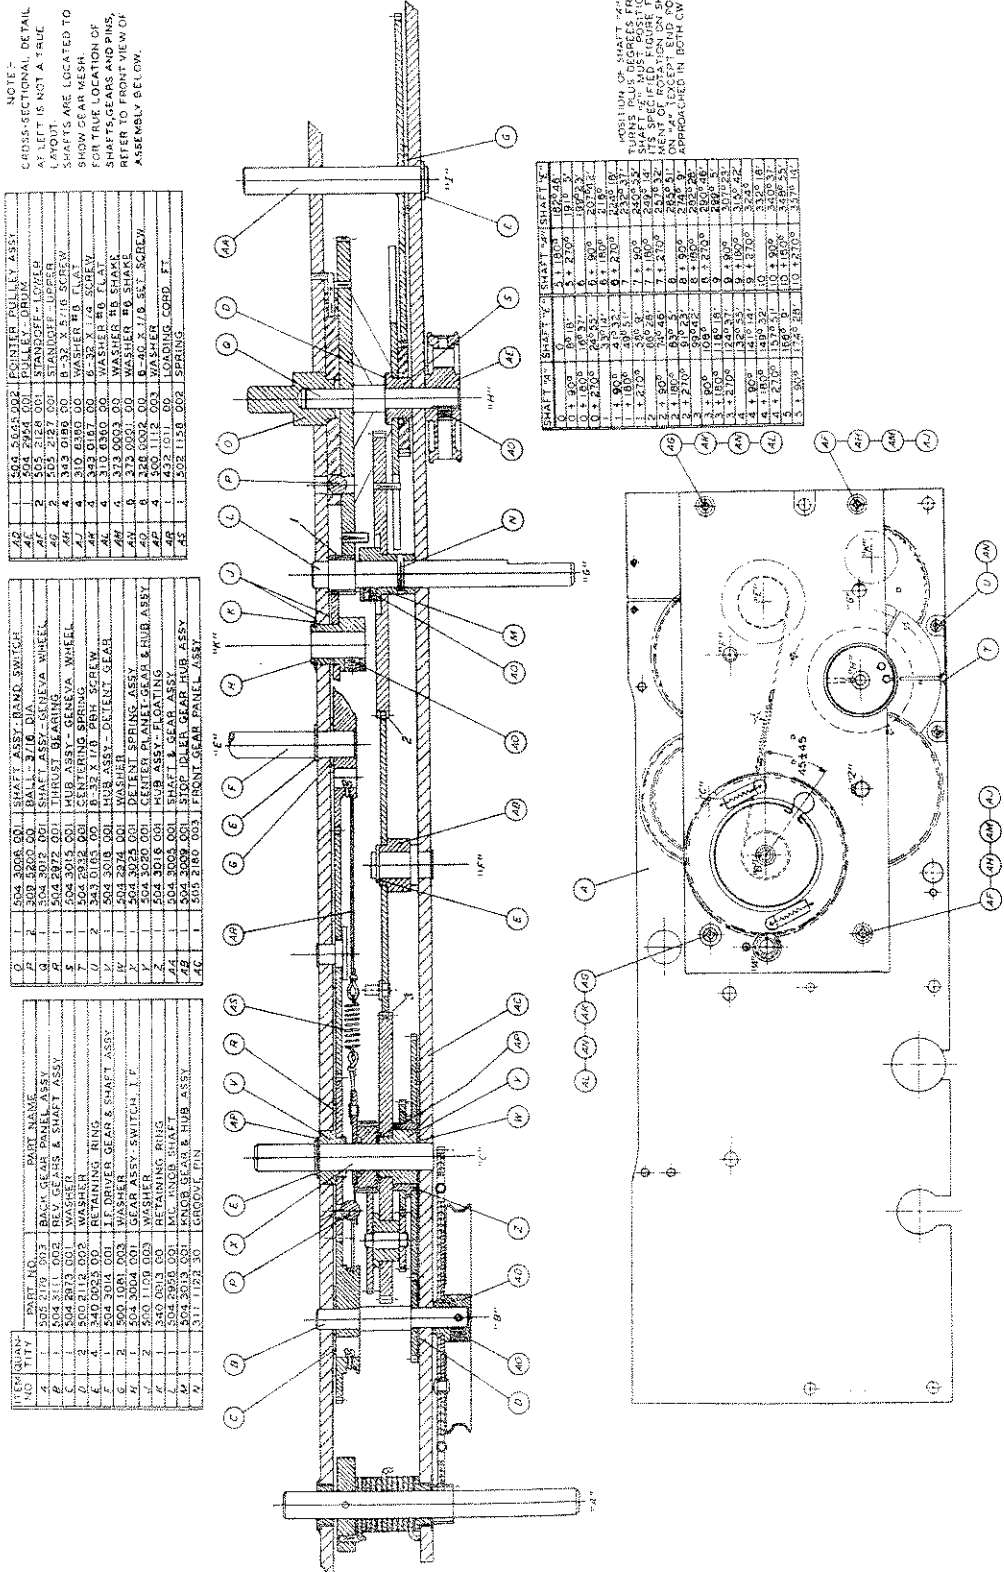

Figure 5-4. 51J-4 Dial and Bandswitch Gear Box
- (4) Using the circumference of the Geneva wheel as a guide, scribe a mark on the 85-tooth gear that drives the Geneva wheel.
- (5) Scribe a mark through the edge of the small dial cord pulley and the front gear panel.
- (6) Remove pin from hub of large dial cord pulley.
- (7) Remove large dial cord pulley and gear.
- (8) Remove small dial cord pulley.
- (9) Remove retaining ring from shaft I (shown as shaft Z in the front view of gear plate in figure 5-4).
- (10) Using a pair of right angle TRUARC pliers or two bent (right angle) scribes, remove retaining ring from shaft F.
- (11) Measure and record the length of loading spring using a pair of dividers.
- (12) Remove four mounting screws from front gear panel.
- (13) Remove front gear panel, being very careful not to let shafts ride up with plate. While removing this panel, do not allow gears to unmesh or rotate.
- (14) Keep shim washers with respective gears or shafts.
- (15) Before moving or disengaging any gears other than the 90-tooth gear on shaft F, scribe a line through detent spring, 48-tooth detent gear, and rear gear panel, and another line through the 52-tooth gear on shaft E and rear gear panel.
- (16) Mark all gears being removed in such a manner that they may be identified later for reassembly.
- (17) If the overtravel coupler is removed, note that the disc and gear are detented. Do not lose detent ball.
- (18) Make all necessary repairs. If any parts that have been scribed are to be replaced, be sure to scribe the new parts in exactly the same manner before placing them in the equipment. If the loading cord is to be replaced, form a small loop at one end of each of the two pieces to provide anchors for the spring. Push free ends of the cords through the proper pulley-holes. Knot the free ends after allowing for five inch lengths of cord between the loops and knots. Coat the knots with Duco cement.
(1) Shaft G should now be against the clockwise stop, and should detent when turned counterclockwise approximately  $45^\circ$ . The ball on shaft C will now detent shaft G every  $180^\circ$ .
(2) When shaft G is turned counterclockwise  $7\frac{1}{2}$  revolutions, or 15 detent positions from the first detent position, the pin in the 144-tooth gear on shaft H (figure 5-4), and the radial pin on the overtravel disc rotate clockwise until the radial pin just touches or is about to touch the pin in the rear gear panel. Further rotation of shaft G causes the pin in the gear to leave the radial pin that was stopped by the pin in the rear gear panel. Thus the overtravel coupler output shaft, which drives r-f switches S101 through S107 (figure 4-2), rotates  $300^\circ$  for the first 16 detent positions of shaft G and remains at that setting for further counterclockwise rotation of shaft G.
(3) Shaft G should rotate 14 more detent positions or 7 revolutions from the sixteenth detent position, and should hit the counterclockwise stop approximately  $45^\circ$  past the thirtieth detent position. If the stop pins intersect before this, adjust them by changing phase relations of the gears at points 1, 2, and 3, shown in figure 5-4. Before deciding to change the relative positions of these gears, double check the conditions in steps (1), (2) and (3). If instructions in paragraphs 5.6.2. and 5.6.3. were followed precisely, operation of the BAND CHANGE gear train should meet the conditions set forth in these steps.
(4) The Geneva wheel should turn one notch when shaft G turns counterclockwise from an even-numbered to an odd-numbered detent position. (Count the first detent position from the clockwise stop as number 1.) Thus shaft I should rotate through 14 positions, or  $280^{\circ}$ , for 30 detent positions, or  $14\text{-}1/2$  turns, of shaft G. The initial position of shaft I should correspond to detent positions 1 and 2 of shaft G, the second shaft I positions should correspond to detent positions 3 and 4 of shaft G, and so on through to the thirtieth detent position of shaft G.
(r) Replace large dial cord pulley and gear assembly as follows: Turn shaft A to counterclockwise stop. Make sure that the 52-tooth gear on shaft E and the 48-tooth detent gear on shaft C are still set at their respective scribe marks. Place pulley and gear assembly far enough on shaft B to engage the rear section of the split gear with the 15-tooth gear on shaft A. Be sure the groove-pin holes on shaft and hub are lined up and that the pulley slot is within  $45^{\circ}$  of the position shown in figure 5-4. Rotate front section of split gear so that springs stretch to  $3/4$  inches. Engage front section with 15-tooth gear on shaft A. Replace groove pin and tighten set screw.